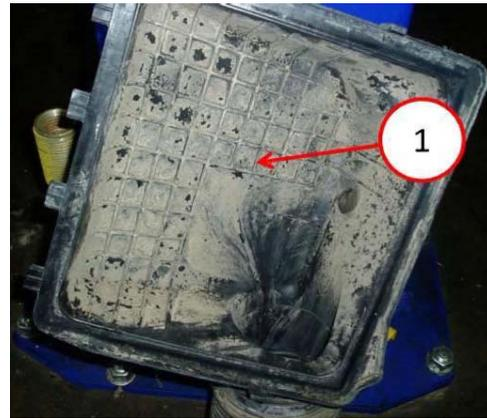
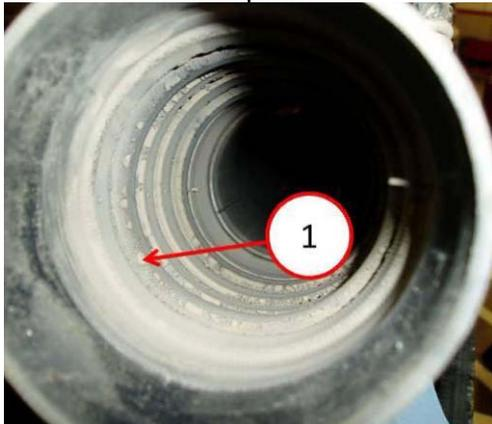

Figure 2: Air Filter Cover
Figure 3: Chard Air Cooler Hose
4. Inspect all air handling ducts and components. If dirt is found in the air handling components, further diagnostics may not be necessary. Damaged engines with dirt detected on the "clean side" of air filter may not qualify for warranty coverage. Even if components are clean, inadequate or overloaded air filters may have been cleaned or replaced (Figure 2). In these type cases, you must investigate further. Remove Charge Air Cooler hoses from turbo to intercooler and intercooler to intake. Inspect for signs of dirt or dirt abrasion. Dirt passing through the tubes will wear the outer coating of rubber and make the "cords" show on the inside of the tubes. (Figure 3).